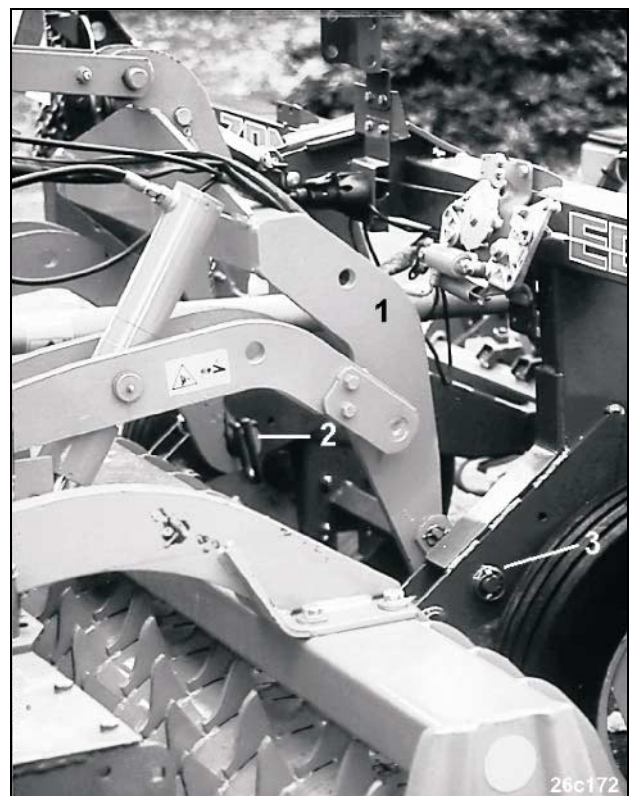

Fig. 174
- To reduce the lift power requirement we recommend to use the lift frame (AMAZONE-System "Liftpack" Fig. 174/1) with which the precision Airplanter is lifted above the packer roller when the entire combination is raised (at the headlands).